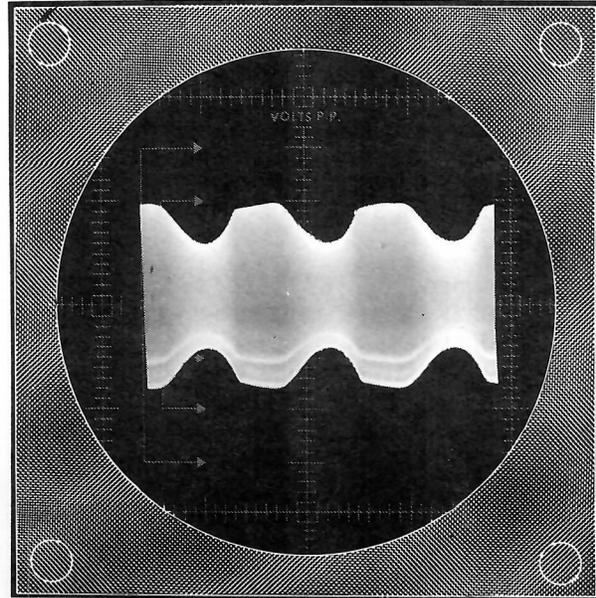
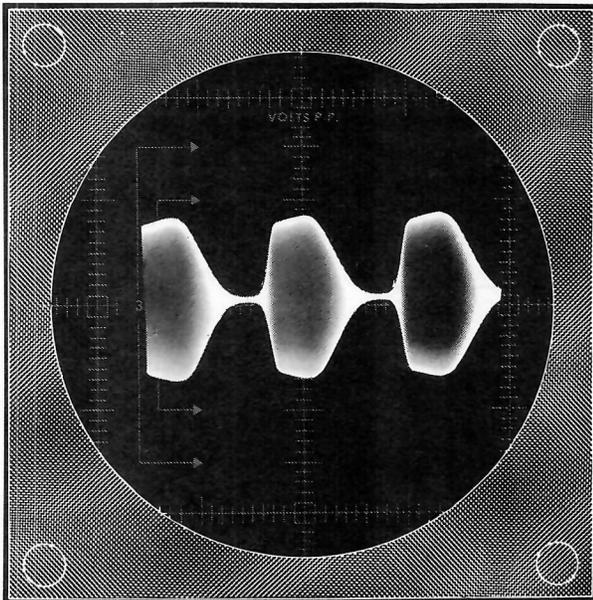

Figure 3-97
Figure 3-96
Figure 3-96 shows "hills and valleys" in the RF waveform. The more pronounced the valleys become, the greater is the percentage of audio frequency that is impressed on the radio frequency waveform. The impressing of the two different frequencies is called amplitude modulation. When the oscilloscope is set to view audio frequencies (about 1000 cycles per second) and one-half as much audio is impressed on the RF, almost 100% modulation results, as shown in Figure 3-96. When less than one-half is impressed on the RF Figure 3-97 shows less than 100% modulation. If more audio frequency is
- () Slowly turn the 20 K Ω control until a waveform such as in Figure 3-96 appears.
- () Slowly turn the 20 K Ω control toward the maximum position and note the changing waveforms. You should observe all these waveforms, as in Figures 3-96, 3-97, and 3-98. The frequency vernier may have to be adjusted slightly as you do this procedure.